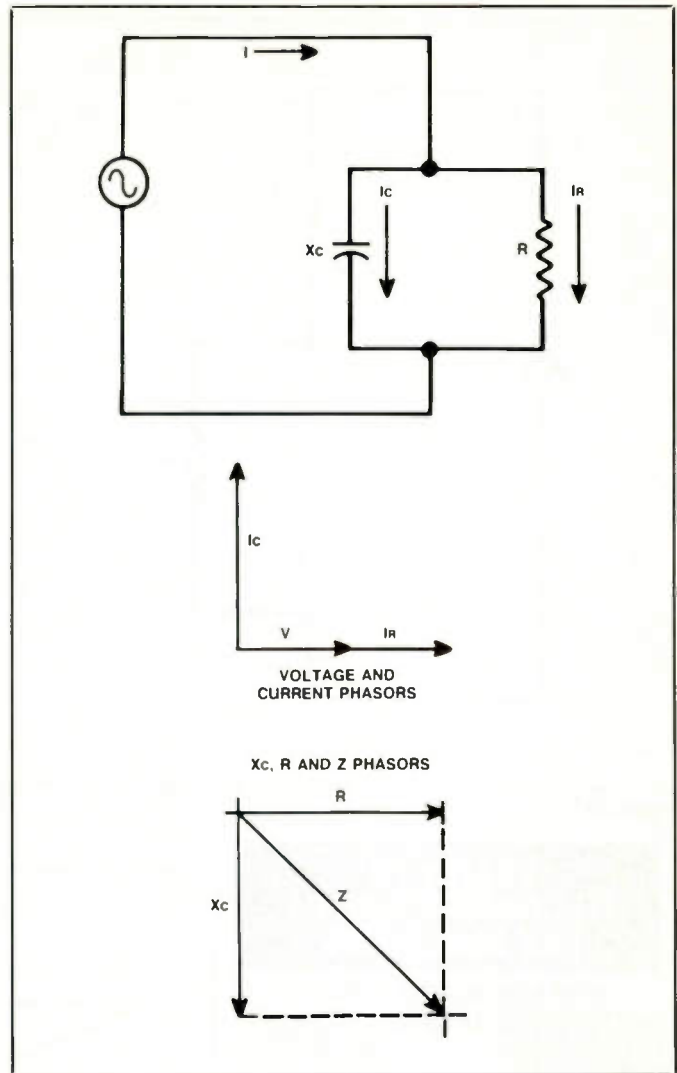

Figure 5.
Figure 5 shows a capacitor in parallel with a resistor. The current and voltage phasor diagram is shown for this circuit. Note that the phasor for I_C is drawn in the direction opposite to the one in Figure 3. The reason is that the voltage is now the reference. The current phasors represent the ac currents through the capacitor and resistor.
shown in Figure 5. The procedure for finding the parallel impedance is the same as for finding the series impedance.
Now consider the series-parallel circuit of Figure 6. This is the simplified equivalent circuit of a capacitor. Draw the impedance phasor diagram for the R_C parallel circuit. This was shown in Figure 5. The impedance phasor for the parallel circuit is Z' . Next, combine the resultant (Z') phasor with the phasor for the series resistance (R_S). Find the resultant by the parallelogram method as shown. This is the resultant phasor (Z) that represents the impedance of the complete circuit.